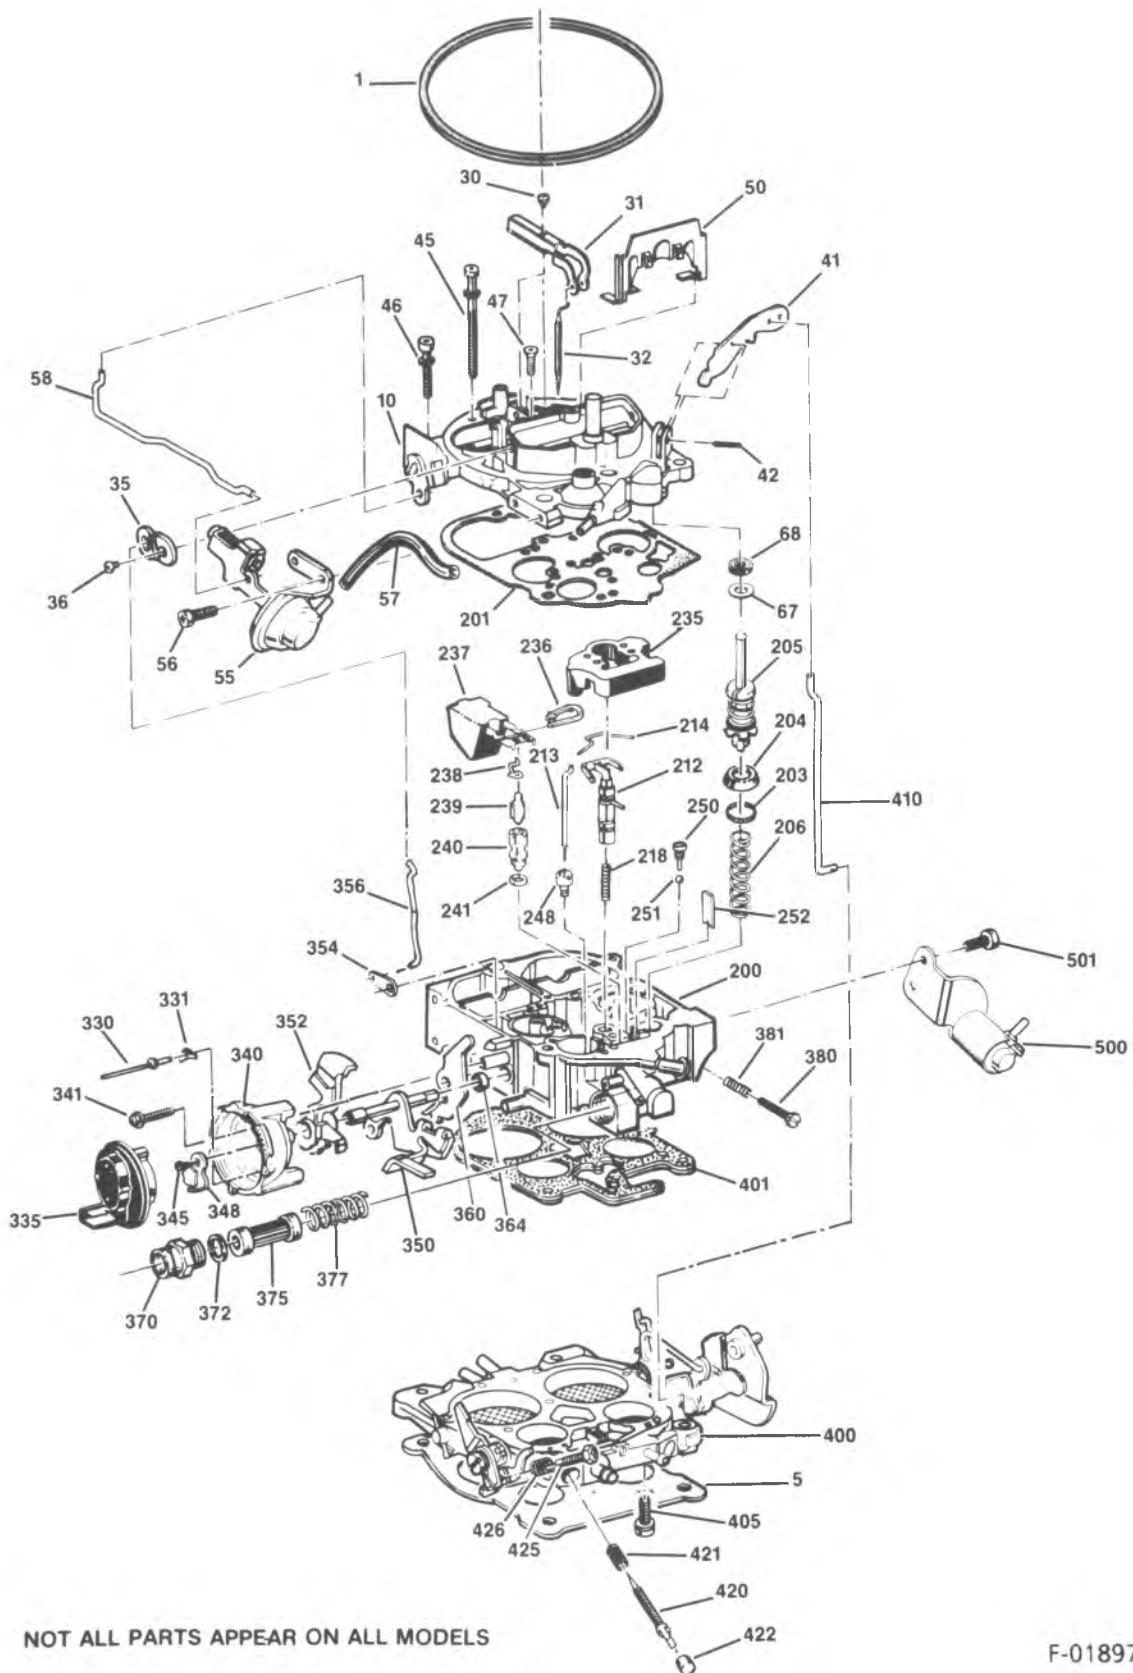

Figure 8 -- Model M4MEF
Carburetor parts are shown in the disassembled view (Figure 8) and are identified by name on the facing page (Figure 9).
Refer to Figures 8 and 9 for parts identification.
- ➡➡ Remove or Disconnect (Figures 8, 9)
- Bracket attaching screws (501), and solenoid and bracket assembly (500).
- Primary side vacuum break hose (57).
- Primary side vacuum break attaching screws (56).
- Primary side vacuum break assembly (55) and primary side vacuum break-air valve lever link (58).